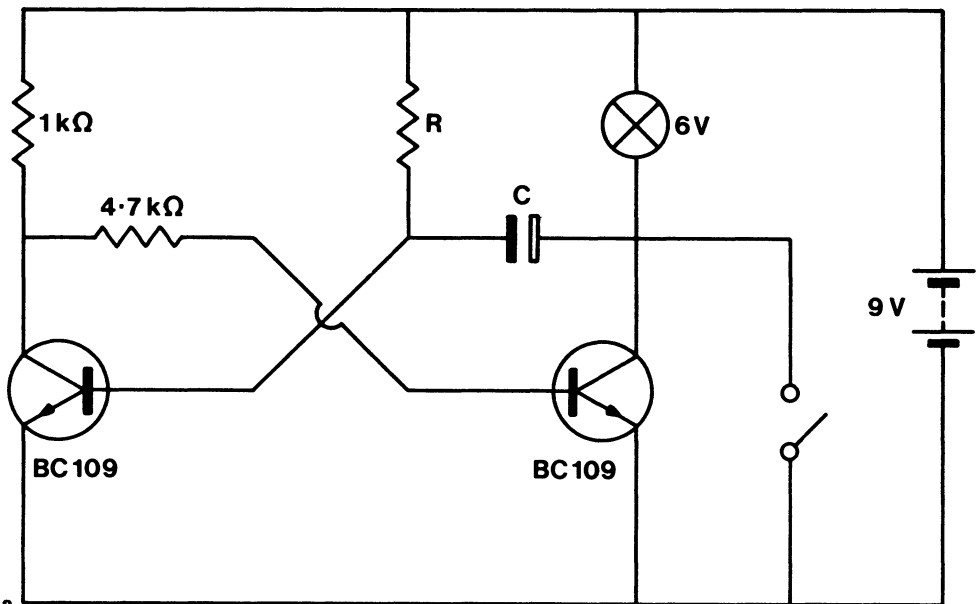
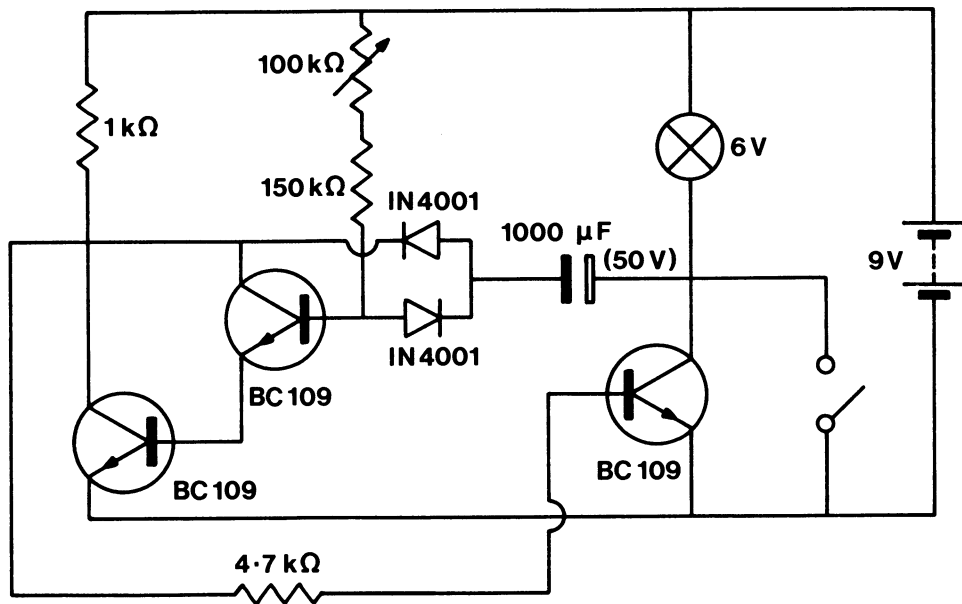

FIG. 1.32a
FIG. 1.32b
1. The circuit in Fig. 1.32a above will be recognized as being similar in arrangement to the bistable circuit introduced in Circuit 12. However, one of the base resistors in the bistable circuit has now been replaced by a capacitor,  $C$ , and another resistor,  $R$ , added. Build this circuit and arrange it so that values of  $R$  of  $10\text{ k}\Omega$  and  $33\text{ k}\Omega$  can be switched in at will, similarly values of  $C$  of  $47\text{ }\mu\text{F}$  (25 V) and  $100\text{ }\mu\text{F}$  (25 V) can be selected. Now see what happens as the switch,  $S$ , is momentarily closed. It should be seen that even though the switch is closed for a very short time the bulb stays ON for several seconds after this, and that the length of time the bulb stays on is determined by the values of  $R$  and  $C$  used.
2. The monostable can be used as a timer. That is, by choosing the correct values for  $R$  and  $C$  the bulb can be made to stay on for any length of time required. By making  $R$  and  $C$  very large the bulb can be made to stay on for several minutes. Making  $R$  and  $C$  very large can cause certain problems, however. First, if  $R$  is too large, not enough current will be able to flow into the first transistor base to switch this on. Large values of  $C$  are also very bulky and expensive. The circuit in Fig. 1.32b is a modification of that in Fig. 1.32a which permits much larger values of  $R$  to be used. Notice that the first transistor has now been replaced by two transistors. This combination is known as a *Darlington pair*, and allows very small base currents to switch the transistors. The diodes are for protection of the transistors in the Darlington pair during the charging of the capacitor. Build the circuit and use a combination of a 150 k $\Omega$  fixed resistor and a 100 k $\Omega$  variable for  $R$ . The 100 k $\Omega$  may be increased to about 330 k $\Omega$  if desired.